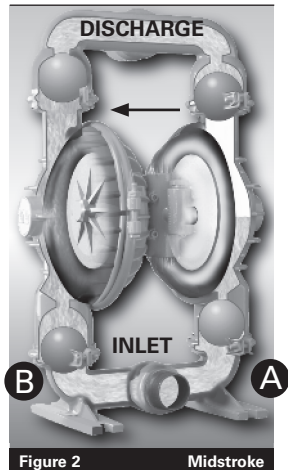

Figure 2
**FIGURES 2 & 3** When the pressurized diaphragm (diaphragm A) reaches the limit of its discharge stroke, the air valve redirects the compressed air supply to the back side of diaphragm B. The pressurized air forces diaphragm B away from the center block while the shaft pulls diaphragm A toward the center block. The air chamber on side A exhausts its air to atmosphere through the exhaust port of the pump. Diaphragm B is now on its discharge stroke while diaphragm A is on its suction stroke. Diaphragm B forces the inlet valve ball (lower left) onto its seat due to the hydraulic forces developed in the liquid chamber and manifold of the pump. These same hydraulic forces lift the discharge valve ball off its seat, while the opposite discharge valve ball is forced onto its seat, forcing fluid to flow through the left side of the pump and out the discharge manifold. The movement of diaphragm A to the center block of the pump creates a vacuum within liquid chamber A. Atmospheric pressure forces fluid into the inlet manifold of the pump. The inlet valve ball (lower right) is forced off its seat allowing the fluid to enter the right liquid chamber.